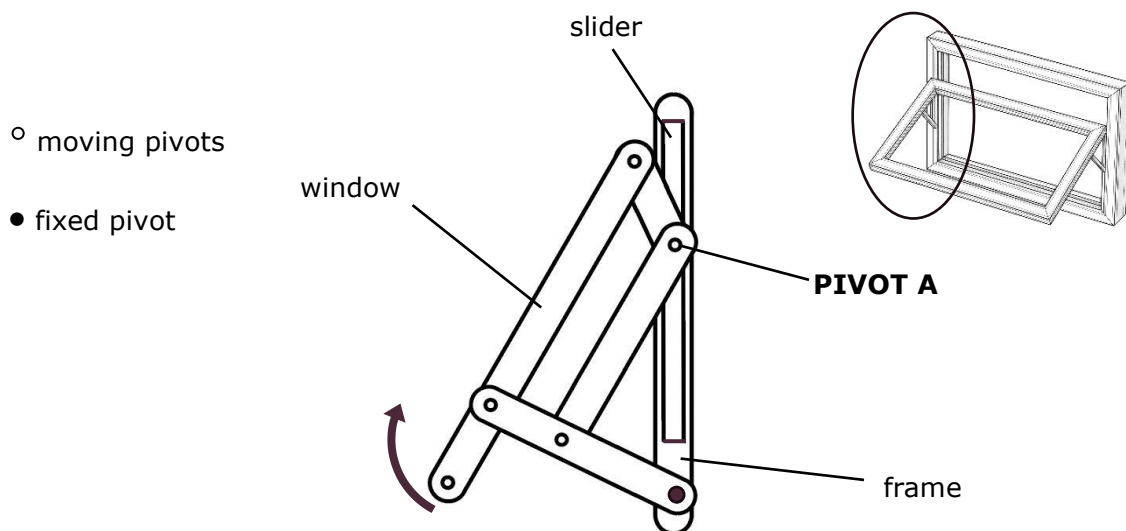

Figure 5
- a. The mechanism shown in Figure 5 is one possible solution.
- i. Name the type of linkage shown in Figure 5.
- ii. On Figure 5, add an arrow to describe how pivot A moves when the window is opened.